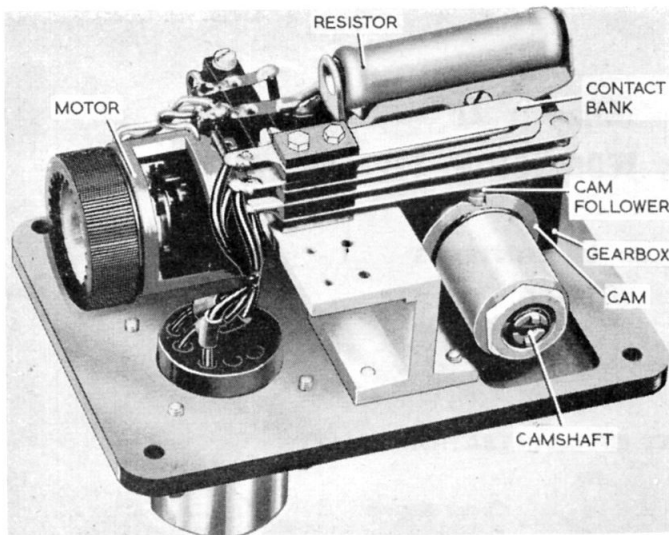

Fig. 2. Internal view of switch
4. The mechanism of the switch (*fig. 2*) consists of a governor, series wound electric motor, coupled to reduction gearing, which drives a cam arranged to operate a bank of leaf-spring contacts.